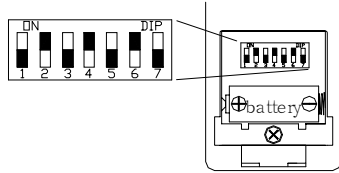
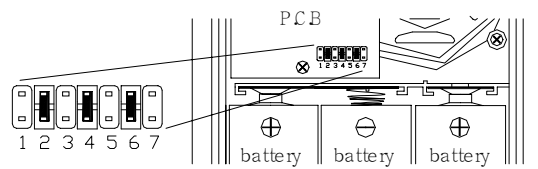

fig 9
fig 10
- ① Transmitter-Battery installation/replacement: Take off transmitter case. Open the back-side battery Cap (as fig 9)
- ② Receiver-Battery installation/replacement: un-screw the battery cap (as fig 6), be sure install The battery in right position (as fig 10)
There are 7 selections code on both Transmitter & Receiver (ad fig 9 & fig 10) for choosing. Adjusted selection code of Transmitter to “ON”, for example: fig 9 selection code “ON” – 246 Then the receiver selection code will be “ON” – 246 (fig 10) via jumped circuit automatically.